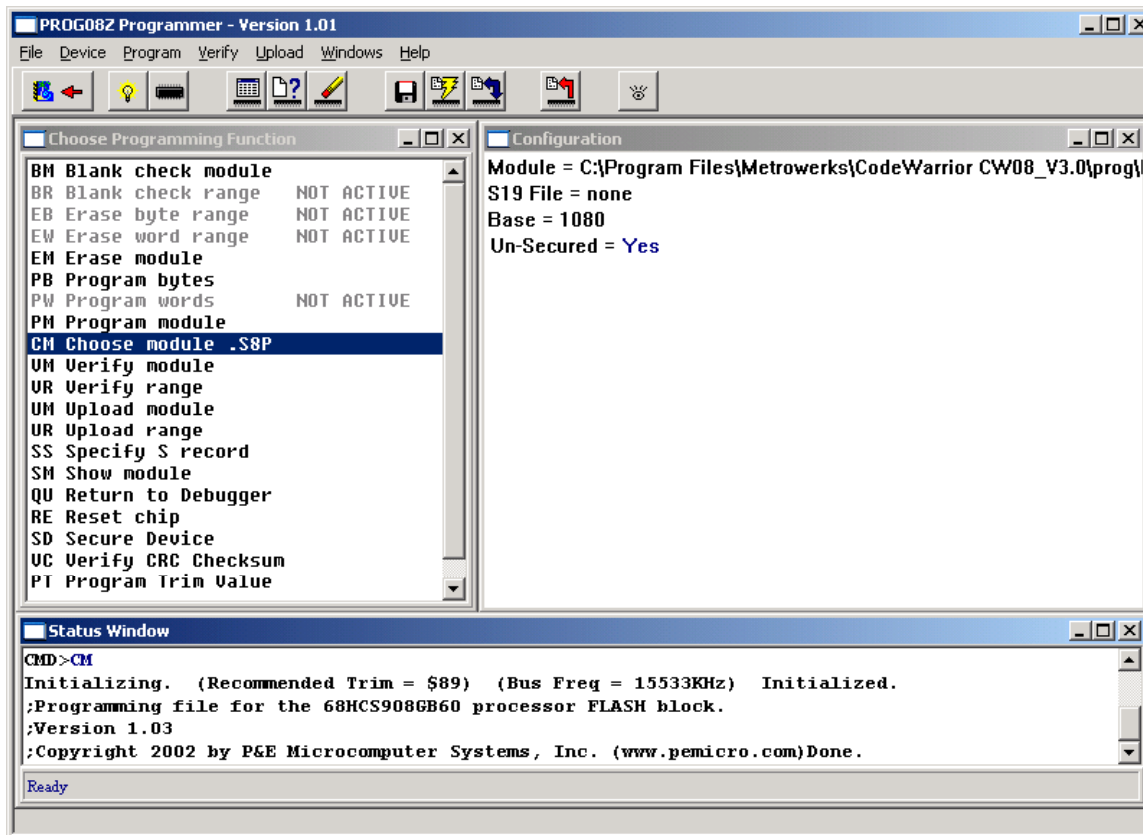

Figure 18 Programmer Expert Window
- Make a copy of the NVM sector (both NVM0 and NVM1) with the production data. Select the “PEDebug” menu, select “Programming Options”, and then choose “Start Expert Mode Programmer”. The “Programmer Expert” window appears as shown in Figure 18.